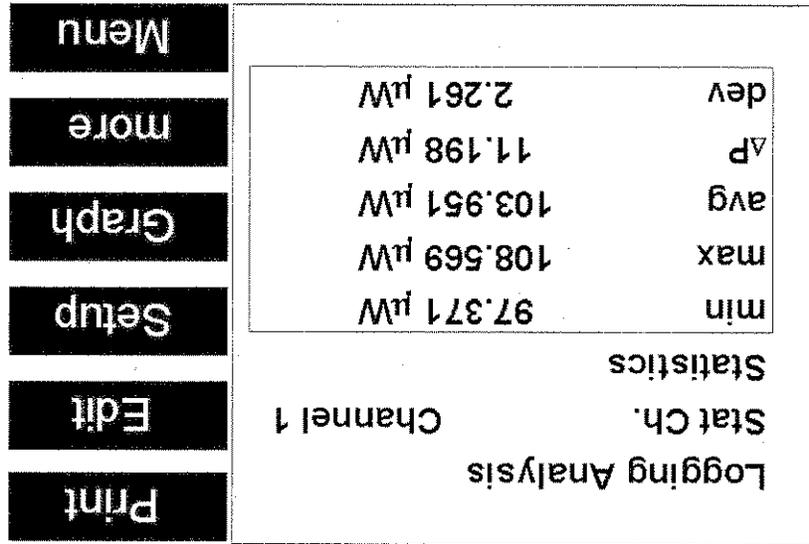

Figure 121 The HP 8163A Logging Analysis Screen - Second Screen
- If you are using the HP 8163A, press [More], the screen in Figure 121 appears, move to [Stat Ch.], press *Enter*, move to a Power Meter channel, and press *Enter*.